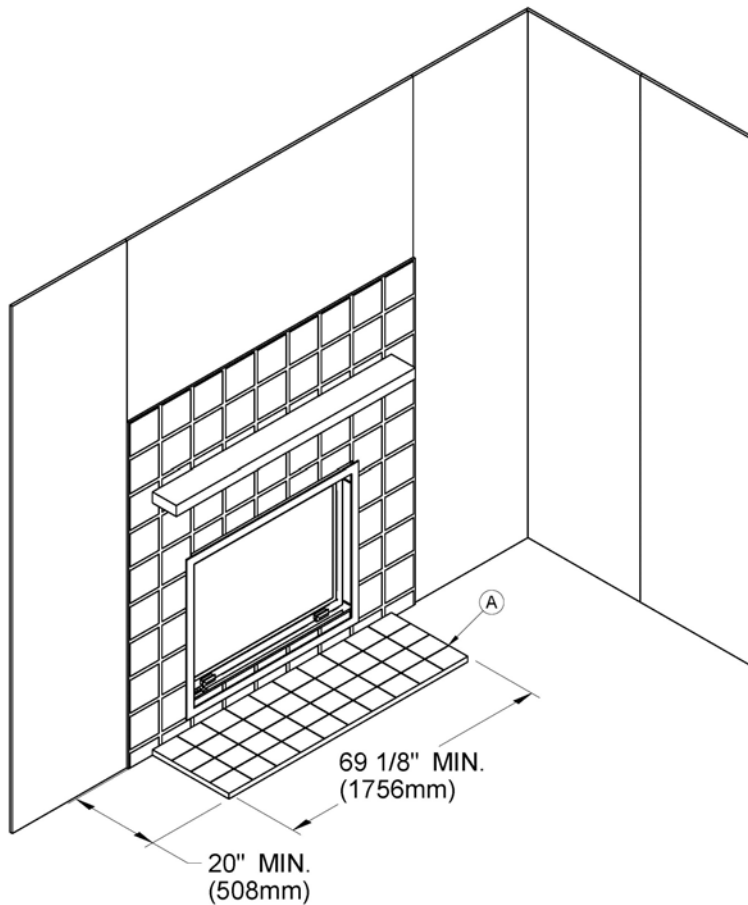
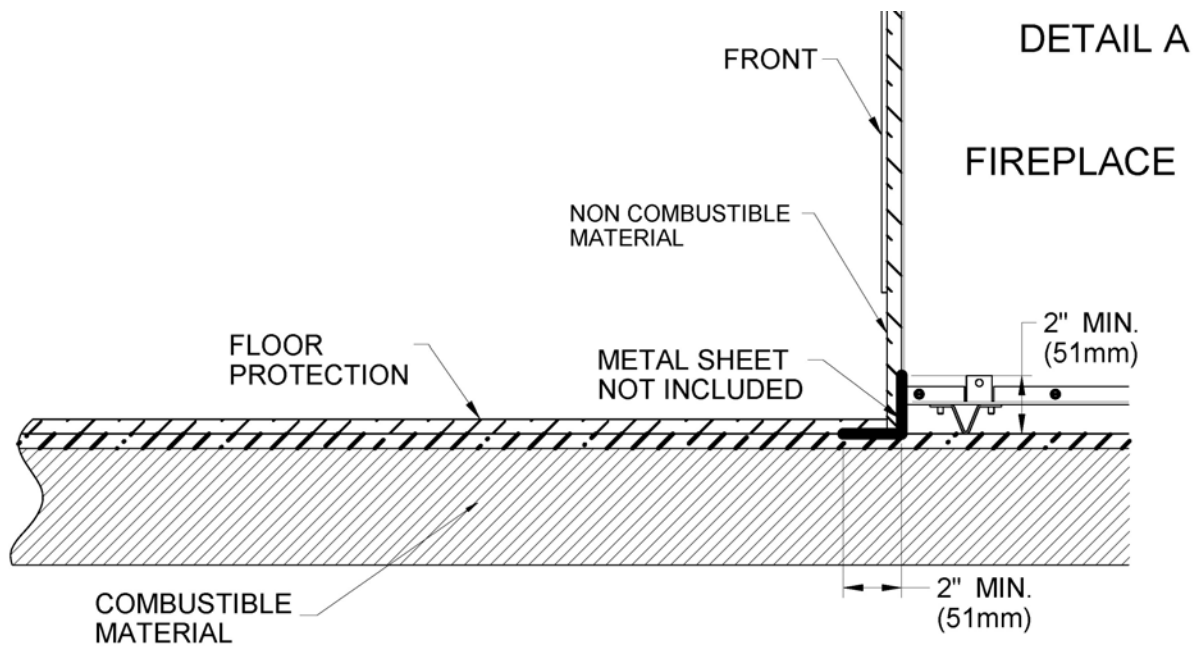

Figure 4
Figure 6
The hearth extension floor area (see (A), **Figure 4**) must extend at least 20" (50 cm) in front and at least 12" (30 cm) on each side of the door opening (see **Figures 5** and **6**). The joint between the hearth extension and the fireplace hearth needs to be made of non-combustible material such as sheet metal or sand-cement grout (not included) as shown on **Figure 6**.